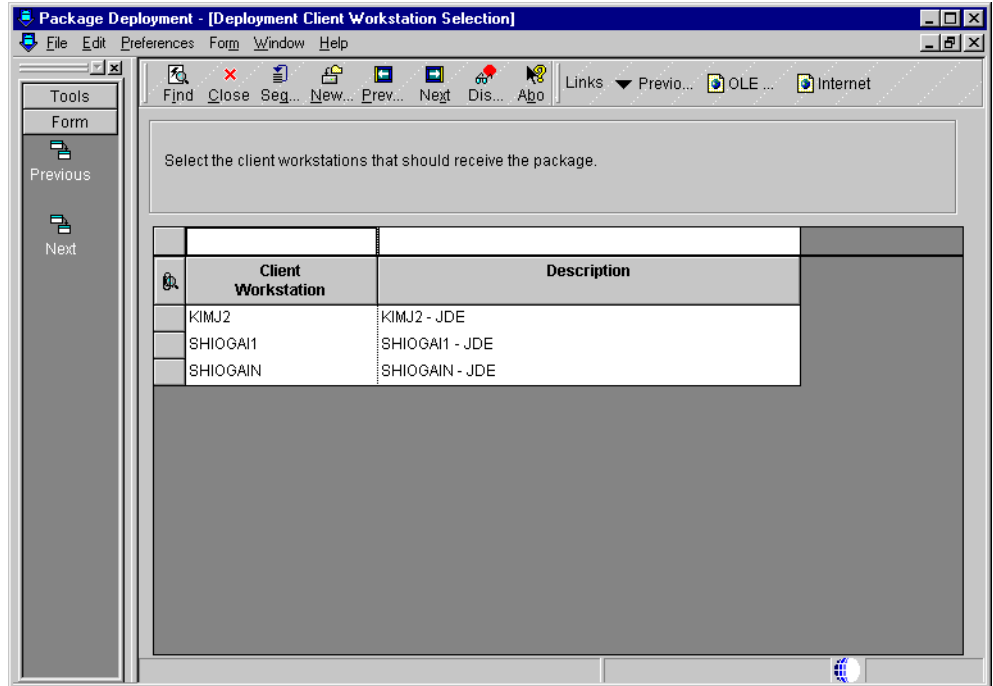

Figure 166. Deployment Client Workstation Selection
6. Click **Next**. If you are deploying to workstations, the Deployment Client Workstation Selection form appears (Figure 166 on page 376). If you are not deploying to workstations, skip this step.